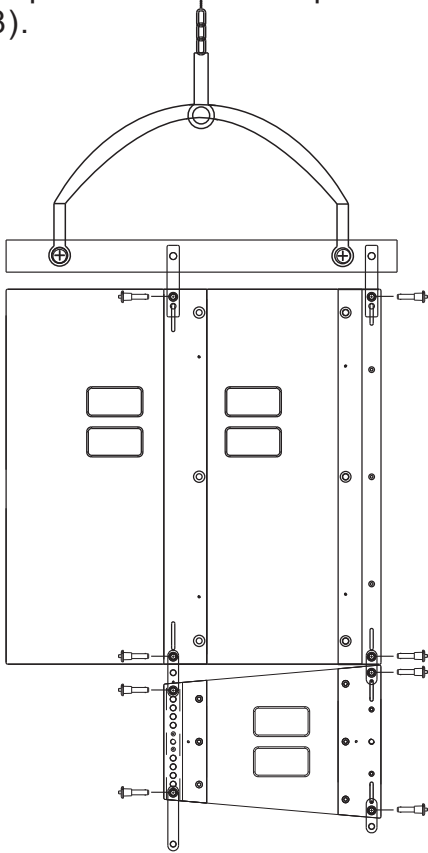

Figure 7
Step 7: After matching the lifting hole of the front end with OK, insert the front-end bolt horizontally into the lifting hole, and then insert the bolt after matching the lifting hole of the back end with OK (as shown in Figure 7).